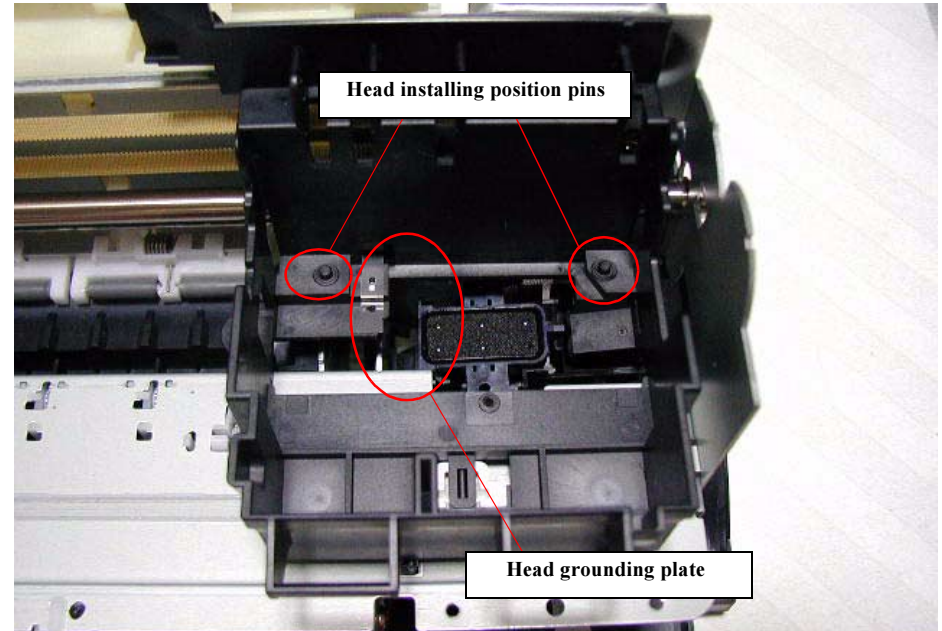

Figure 4-10.
- Make sure that the Head Grounding Plate is installed to the carriage correctly. Refer to Figure 4-10.
- Make sure that two holes of the Printhead correctly fit in the installing position pins. Figure 4-10.